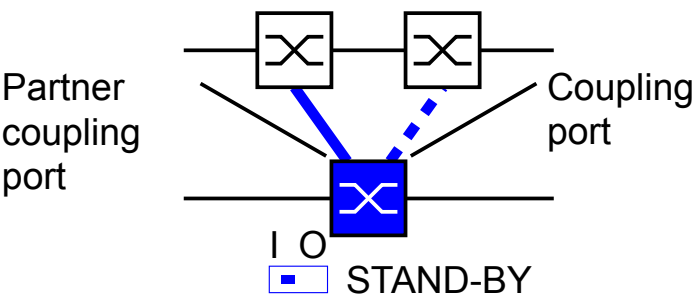

Figure 8: One-Switch coupling
- ☐ Select one-Switch coupling (see fig. 8).